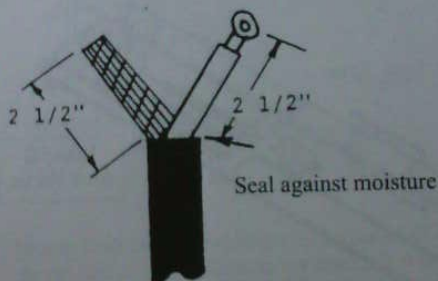

Figure 14
- 12) Prepare your 50 ohm coaxial transmission lines (two required) as shown in figure 14. The crimp terminals supplied may be simply crimped onto the coax center conductors, however soldering is recommended.
Note: Make certain to seal the coax against moisture at the point shown in fig. 14. A silicone type sealer works best, and ideally should be applied after any matching adjustments (next steps) are complete and the coax is secured to the boom in it's final position.